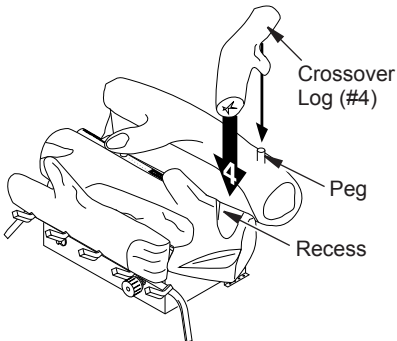

Figure 28 - Installing Crossover Log (#4)
- Place crossover log (#4) onto the pin (right) on back log (#2) and into the recess of the middle log (#1) (see Figure 28).